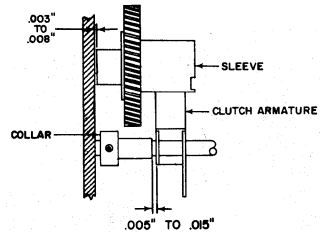

Figure 19
1. Position the collar on the clutch armature shaft to allow the clutch armature .005" to .015" end play on the shaft (Figure 19). Push the shaft all the way toward the casting so the clutch detent, armature knock off arm and washer are against the magnet yoke assembly. Push the clutch armature away from the casting so it touches the armature knock off arm and locate the collar .005" to .015" from the clutch armature and tighten the set screw.
5. Cycle the punch until the feed has occurred and the feed lever roller just comes on to the low dwell of the feed cam. Locate the detent cam on the shaft so there is .003" to .008" clearance between the punch gear and the bearing at the punch casting (Figure 19). Be sure that all of the clutch parts and the punch gear are tight against the detent cam when obtaining the setting. Further